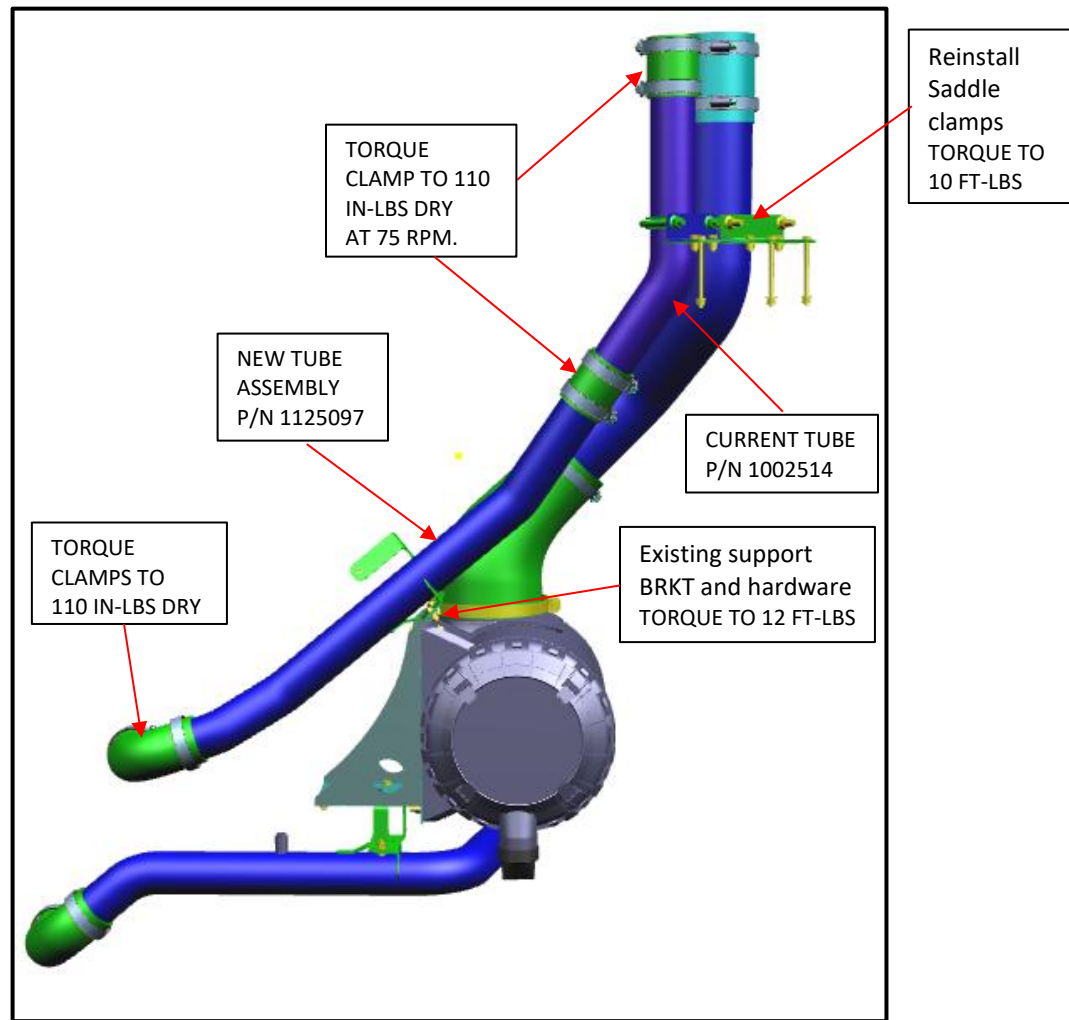

Figure 10: FC vent tube location reference
20. Remove tape from the elbow and Install new FC vent tube, secure using clamps and torque as shown below. See figure 10.
21. Reinstall saddle clamp on Air intake and vent tube using existing hardware. See figure 10.